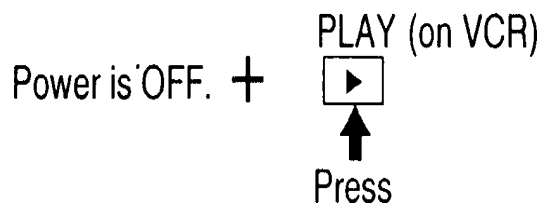

Fig. 23 - Simplified Fault Finding Data
(Figs. 23, 24, 25, 26, 27, 28)
1. With the power turned off, press the *Play* button on the VCR for more than three (3) seconds (Fig. 23).